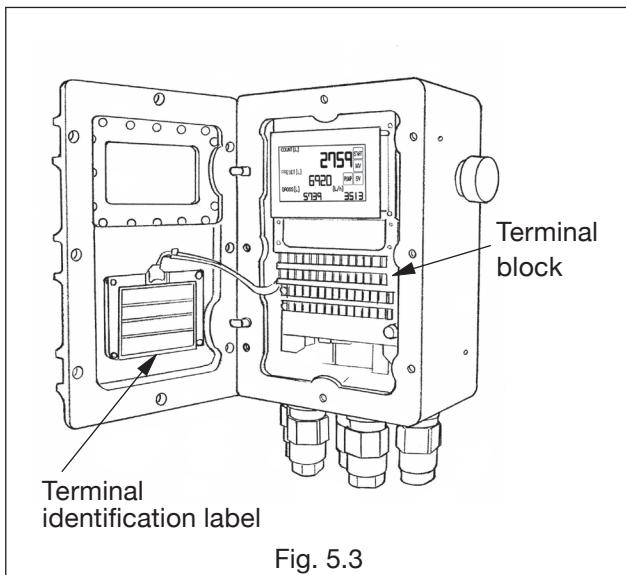

Fig. 5.3
- (1) Conduit work is suggested for field wiring.
- (2) Keep field wiring away from other power lines or power circuits, and reduce the possibility of inductive interference to a minimum.
- (3) Connection terminals are located inside the controller. Use crimp contacts for connections and ensure good electrical contact. (Fig. 5.3)
- (4) In applications where an inductive load (valve, pump, etc.) is active, it is recommended to install surge suppressors on the inductive load side.